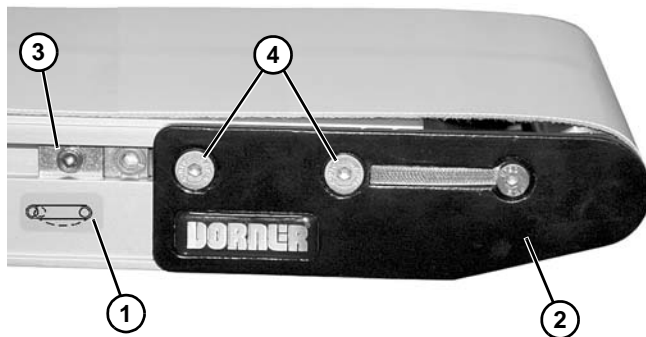

Figure 37
2. On tension end of the conveyor, identified with  a label (**Figure 37, item 1**), push in head plate assembly (**Figure 37, item 2**):
- a. On both sides of conveyor, loosen and move cam tracking assemblies (**Figure 37, item 3**) (if equipped) away from head plates.
- b. Loosen fastening screws (**Figure 37, item 4**) and push head plate assembly inward.
*Figure 37 shows a vertically mounted gearmotor. Horizontally mounted gearmotor is similar.*